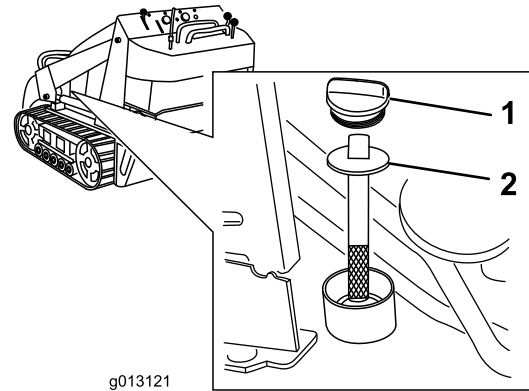

Figure 55
5. Remove the hydraulic tank cap and dipstick (Figure 55).